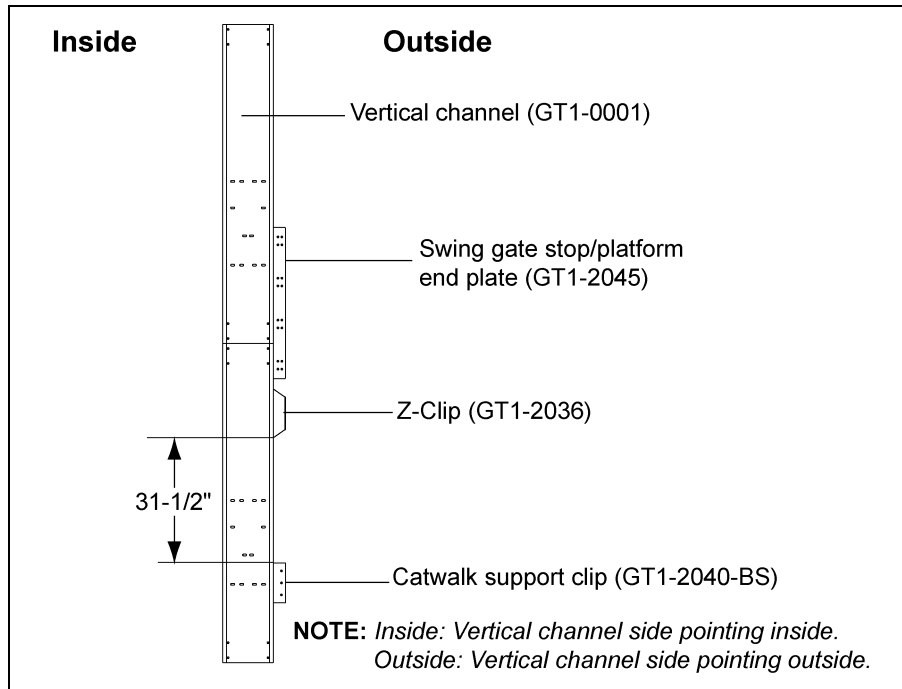
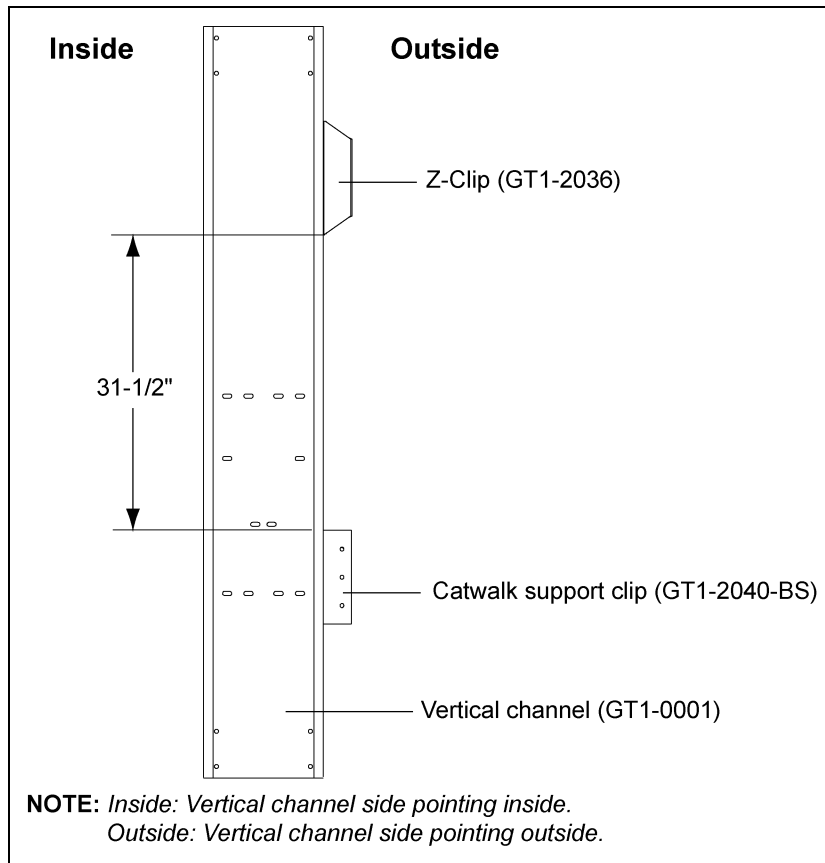

Figure 6H
Figure 6J
2. The distance between the Z-clip and support clip 12' offset and roof hatch platform is 31-1/2". (See Figure 6H below and Figure 6J on Page 48.)